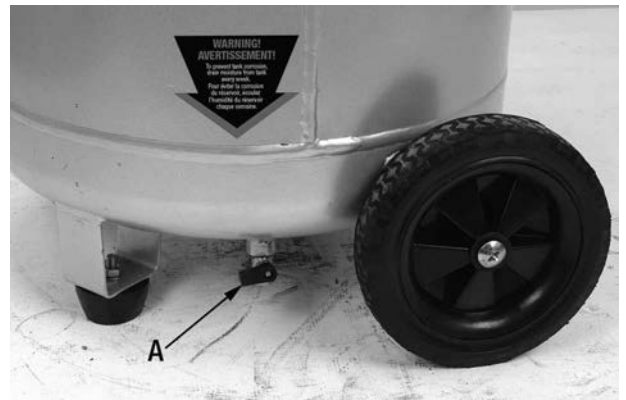

FIGURE 9
DRAIN VALVE (A) FIG.9. The drain valve is located at the base of the air tank and is used to drain condensation at the end of each use. Turn drain valve counterclockwise to open (no pressure build-up) or clockwise to close it (permits pressure build-up).
5. Drain water from air tank. Turn drain valve (A) Fig.9, counterclockwise to open.